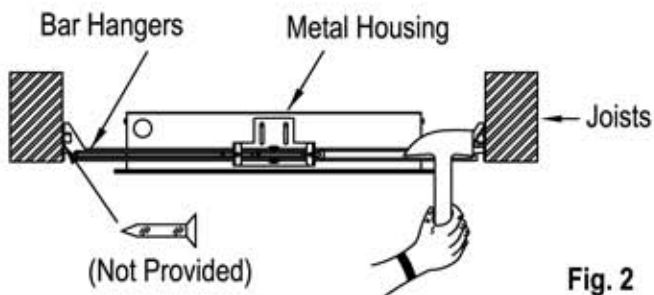

Fig. 2
2. Position Metal Housing and bar hangers between joists. Make sure bar hangers in the correct position to be hanged. Position Metal Housing temporarily by hammering "nail-in" tabs on bar hangers, then secure permanently with nails. Hanger bars should be level with bottom of joists. (Fig. 2)